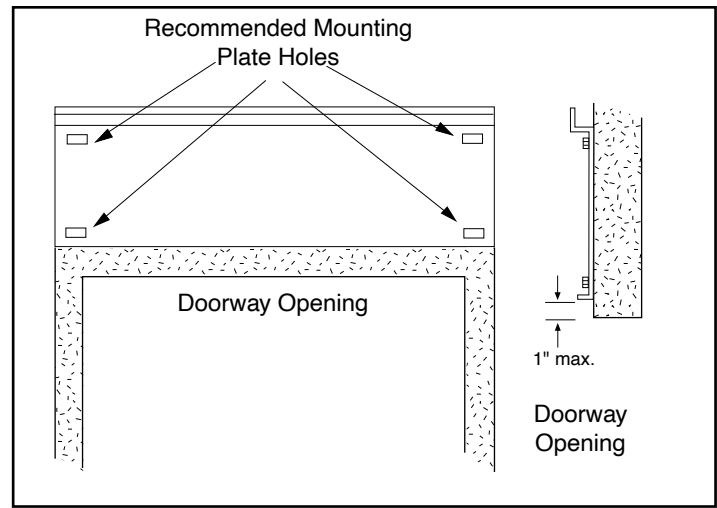

FIGURE 4 - Positioning of Mounting Plate
- Determine the location on the wall above the opening where the air curtain will be mounted. This location should center the unit over the opening and provide suitable mounting support. It is recommended to use at least four locations that correspond to the outer corners of the wall mounting plate. **See FIGURE 4.**